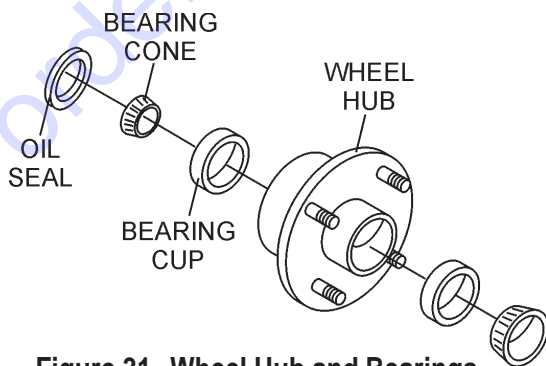

Figure 31. Wheel Hub and Bearings
1. After every 3 months of operation, remove the hub dust cap and inspect the wheel bearings (Figure 31). Once a year, or when required, disassemble the wheel hubs remove the old grease and repack the bearings forcing grease between rollers, cone and cage with a good grade of high speed wheel bearing grease (**never** use grease heavier than 265 A.S.T.M. penetration ("No. 2."))
2. Fill the wheel hub (Figure 31) with grease to the inside diameter of the outer races and also fill the hub grease cap. Reassemble the hub and mount the wheel. Then tighten the adjusting nut, at the same time turn the wheel in both directions, until there is a slight bind to be sure all the bearing surfaces are in contact.